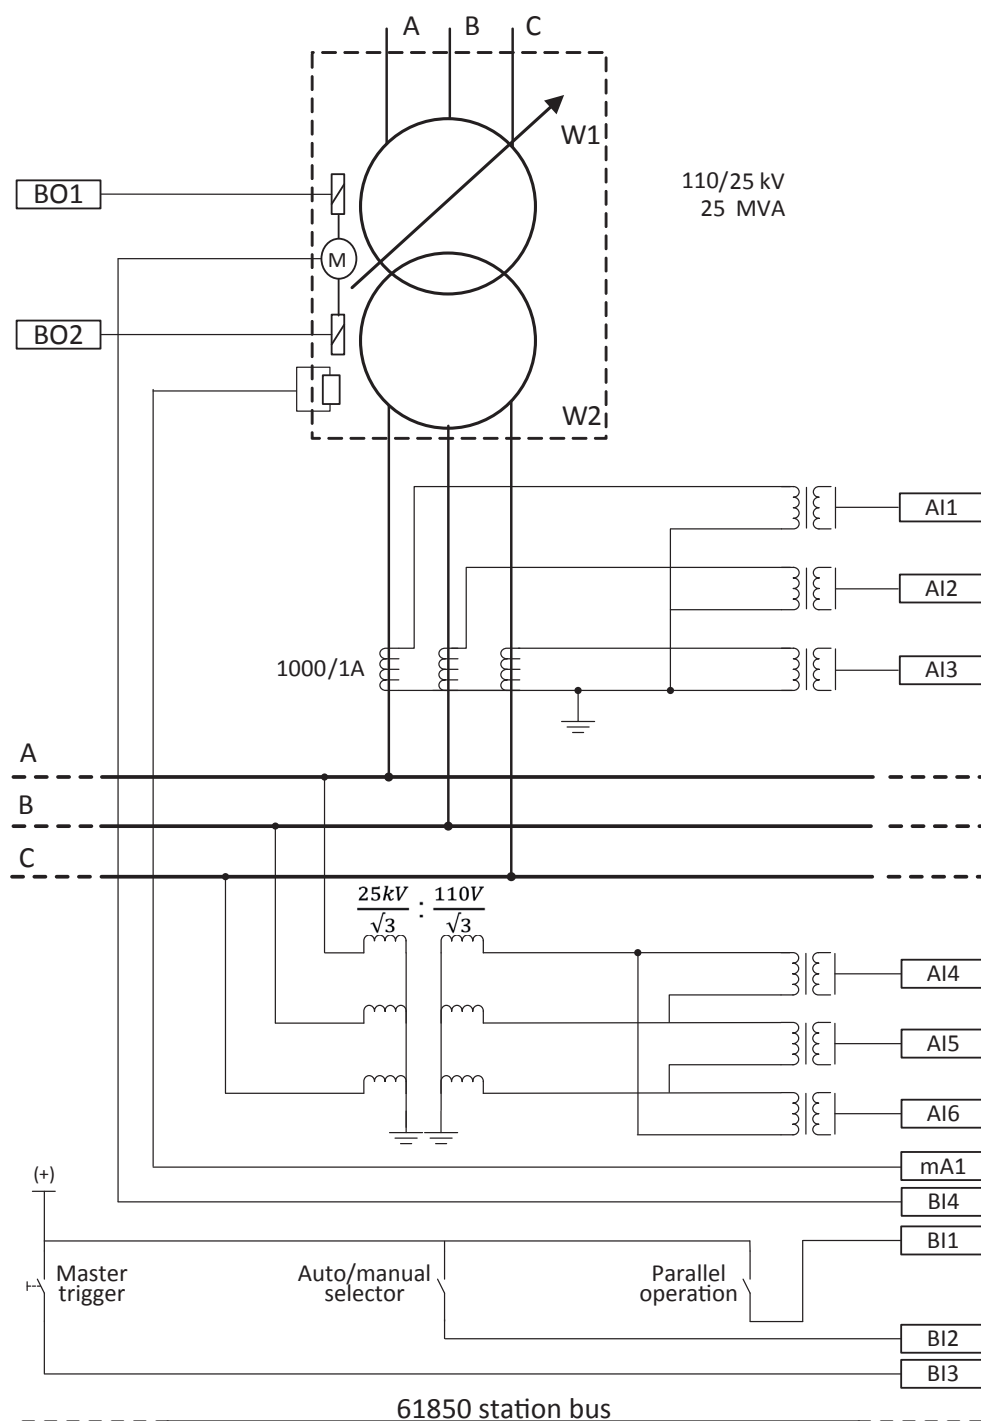

Figure 45: Relay 1 interfaces and CT/VT connections for TR1 in example case 3
Figure 45 shows the connection details of the relay's (Relay 1) analog inputs (AI), binary inputs (BI), milli-Ampere (mA) inputs and binary outputs (BO) for transformer TR1 of the example case. The CT connections for phase current measurements in all phases and the VT connection for voltage measurement on the MV side are also shown in the figure. In the example case illustrated, the tap changer position value is input as an mA input for transformer TR1 and input to TPOSYLTC.